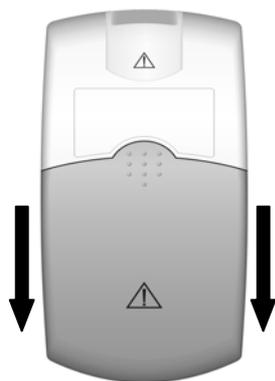

Fig 4-2 Battery assembly 1
4. Insert the batteries in the slot per the electrode indications (as shown in Fig4-2).